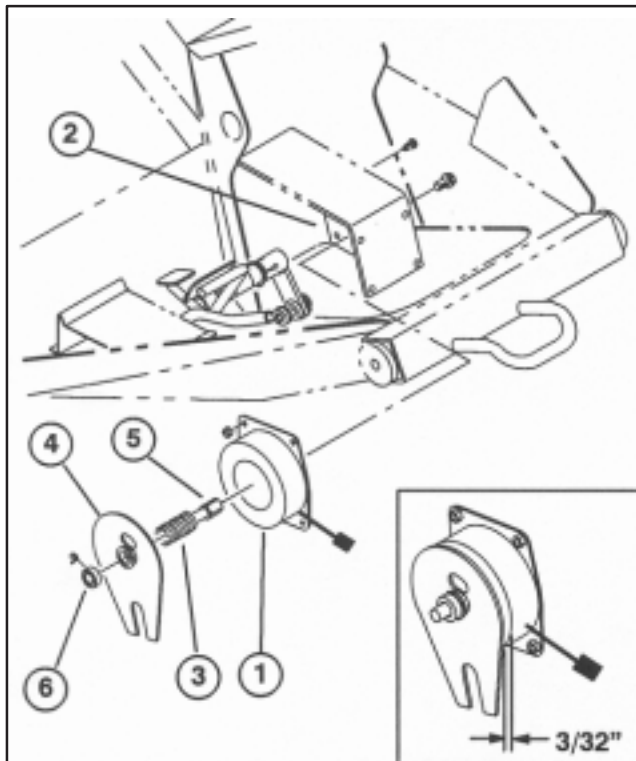

Figure 1
2. Mount coil assembly to right side of center frame member of steering column frame with (4) 1/4-20 x 1/2 lg. capscrews and nuts (Fig. 1). Position coil wire harness toward front of machine.
3. Insert hex end of clutch shaft into coil assembly, aligning hole in end of shaft with hole in frame member. Secure clutch shaft to frame member with a 3/8-16 screw (Fig. 1). Torque screw to 30-35 ft-lb.
4. Insert compression spring onto clutch shaft (Fig. 1).
5. Slide clutch plate onto clutch shaft while aligning spring with bushing flange on coil side of clutch plate (Fig. 1).
6. Install and loosely secure collar to clutch shaft with setscrew (Fig. 1). Push collar onto shaft until clearance between clutch plate and coil is 3/32" (Fig. 1, inset). Tighten set screw.